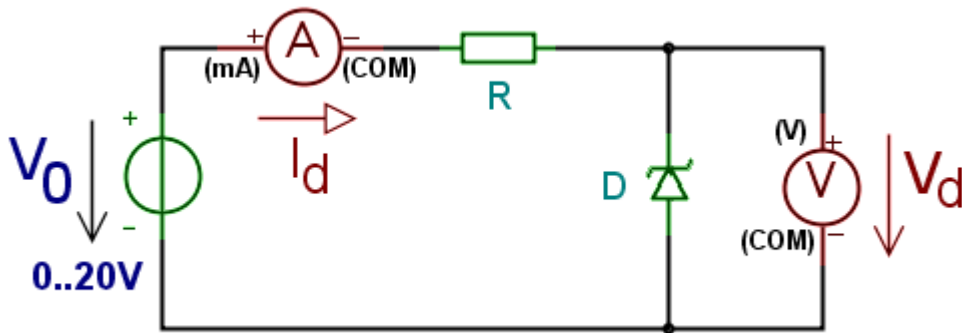

Figure.3: Measurement circuit for reverse characteristics of Zener-diodes
2.1 Build the circuit according to figure 3 to measure the Zener-diode **BZX5V1**. The type name shows us that it has 5.1V breakdown voltage. Therefore we are going to measure in more detail around this value. The circuit is similar to the previous, except the Z-diode is connected in reverse. **R** is still **1k Ω** . (Note that the forward characteristics of Zener-diodes are similar to normal diodes, also these are not used in that region, therefore we are not measuring it in greater detail, only in a few points.)